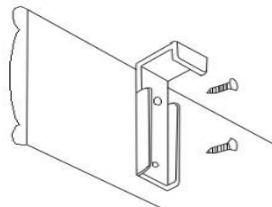

Figure 3
- ii) Screw the pelmet clips (part C) to the back of the pelmet supplied, flush with the top of the pelmet (Figure 3)